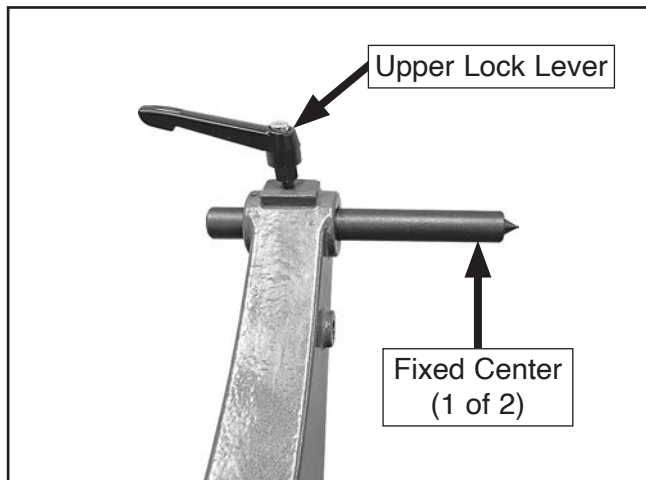

Figure 79. Fixed center installed in headstock mounting arm.
7. Insert (1) fixed center in headstock mounting arm with pointed end facing tailstock (see **Figure 79**).